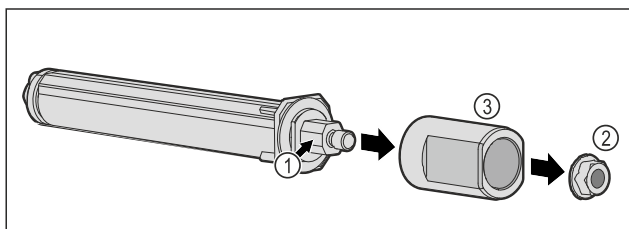

Fig. 53
- ▶ Do not disassemble the door locking system Fig. 53 (1).
- ▶ Remove the Fig. 53 (2) nuts.
- ▶ Take off the Fig. 53 (3) sleeve.